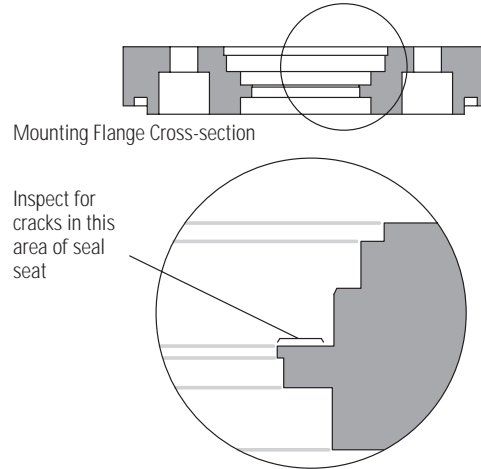

Figure 12
20. Clean mounting flange of all loose metallic chips, particles, dirt or other contamination, including oil. During cleaning, visually check seal seat in mounting flange for scratches or other marks that might damage the pressure seal. Check for cracks in flange that might cause leakage, see Fig. 12.